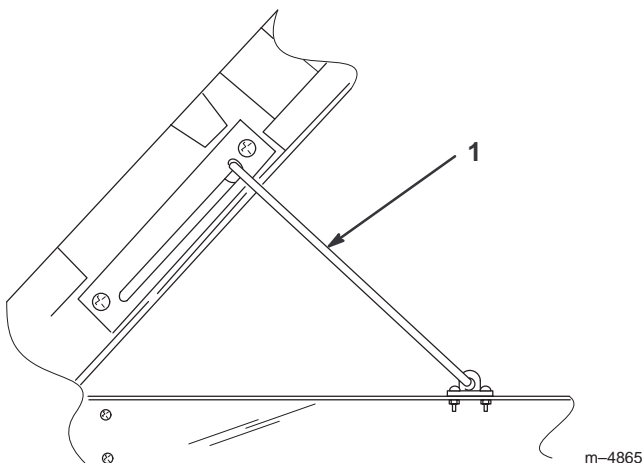

Figure 10
- Raise the bed to its full height; then lower it slightly to engage the prop rod (Fig. 10).